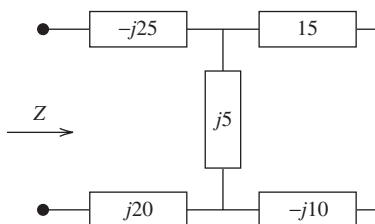

FIGURE P6.25 Circuit for Problem 6.25.
- 6.25 (A)** Find Z in Figure P6.25.